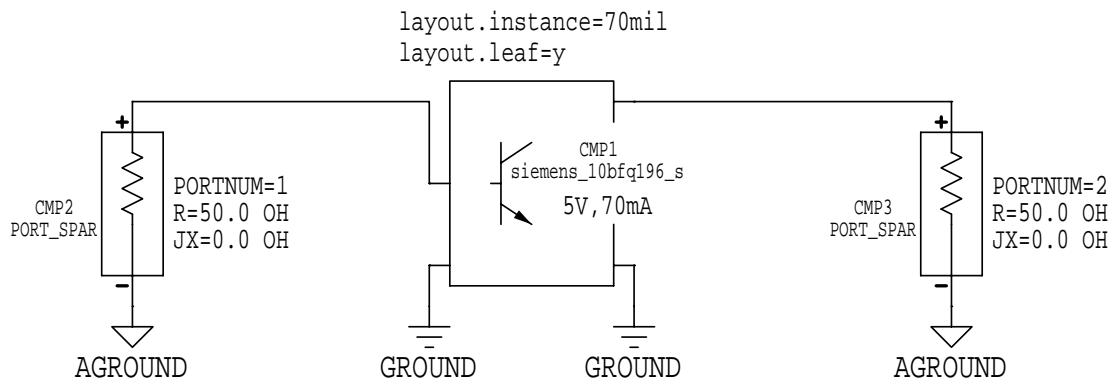

Figure 11: Constant gain circle test circuit
- In the Lab3 workbench, create a new circuit page called BJT_CGC. Figure 11 shows what your completed circuit should like. There are no *EQUATION* statements.